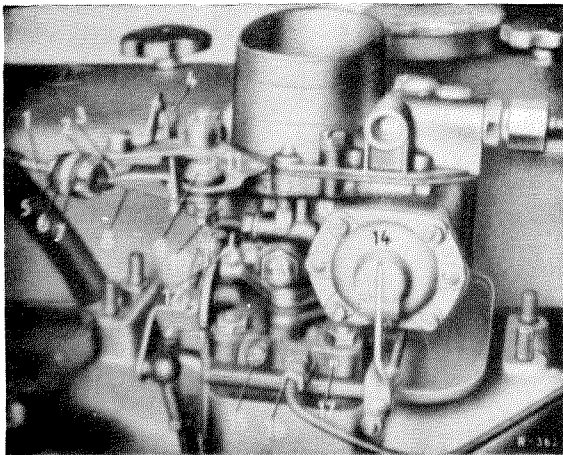

Fig. 01—4/1
If the engine is installed, disconnect the choke cable (see Job No. 30—6) (Fig. 01—4/1).
8. If the engine is installed, turn the idle adjustment screw (12) until the throttle valve of Stage 1 is completely closed. Then bring the idle adjustment screw to rest against the idle stop and screw it in exactly one turn (Fig. 01—4/1).